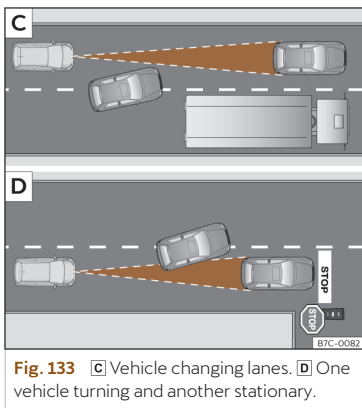

Fig. 133 C) Vehicle changing lanes. D) One vehicle turning and another stationary.
- Vehicles that move into your lane, a short distance from your vehicle >>> **Fig. 133 C**.
The ACC may not react to stationary vehicles. If, for example, a vehicle detected by the ACC turns or moves over and there is a stationary vehicle in front of it, the ACC will not react to the second vehicle >>> **Fig. 133 D**.